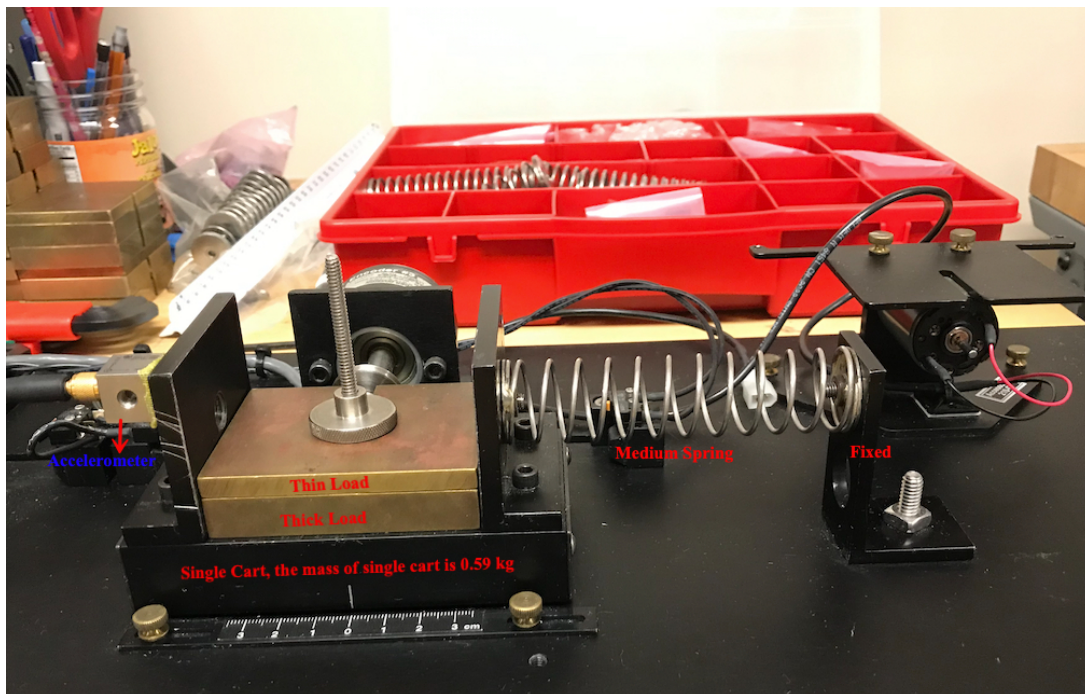

Figure 2. System 1 is consisted of the single cart (0.59 kg), thick load, thin load and a medium spring
1. Create a SDOF system (*System 1*) arranged with a single cart, thin load, thick load and a medium spring Attach the triaxial accelerometer to the cart as shown in Figure 2. Connect the